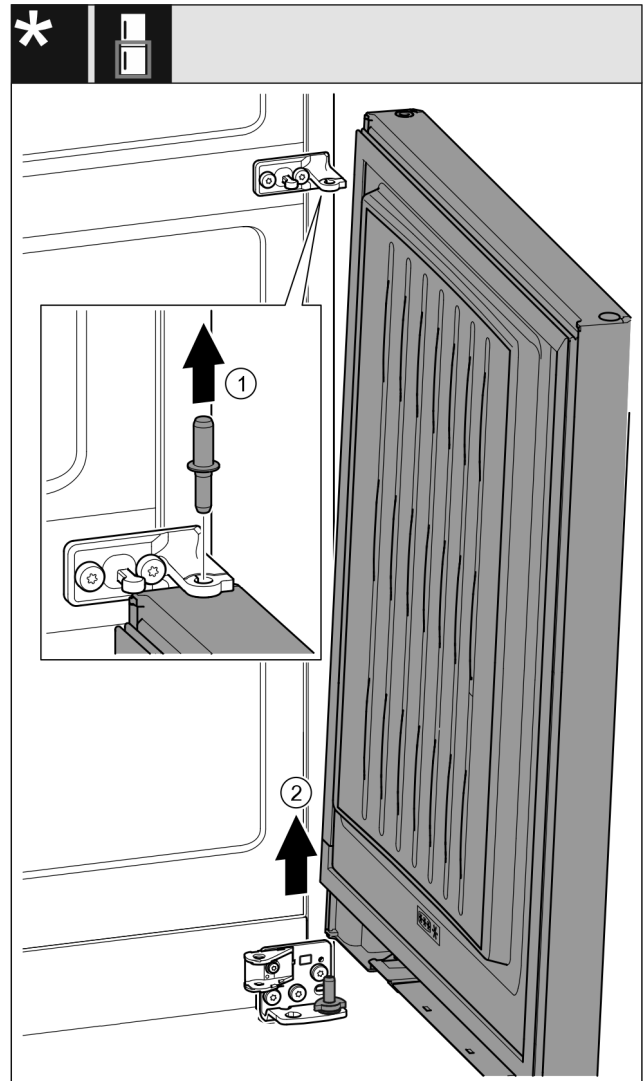

Fig. 23 *
- Pull out the bolts upwards. Fig. 23 (1)*
- Swing the door out, pull it upwards and place it to one side. Fig. 23 (2)*